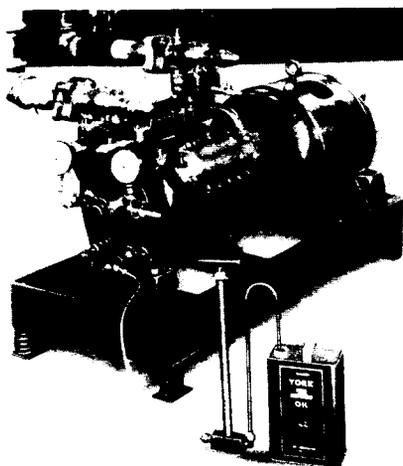

Fig. 9 — Oil Charging Pump
5.14 Oil Selection: Each manufacturer will specify the type of oil to be used in his equipment and it is important that his recommendations be followed. Lubricating oil should be charged into the compressor from sealed airtight containers since oil left open to the atmosphere can absorb sufficient amounts of moisture to be detrimental to the system. Fig. 9 illustrates a type of oil charging pump which eliminates the necessity for pumping a vacuum on the crankcase and prevents admission of air into crankcase.